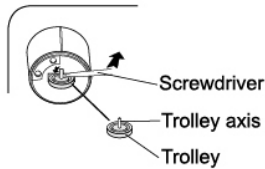
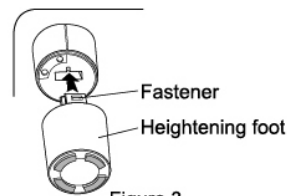

Figure 2
Figure 3
2. Put the screwdriver underside the trolley axis, emphatically prize the trolley axis out from the groove. Lay down the trolley, as figure 2. Emphatically insert the fastener of the heightening foot into the groove where the trolley is put, then ensure to install completely, as figure 3. As the above method, in turn install the four heightening feet completely.